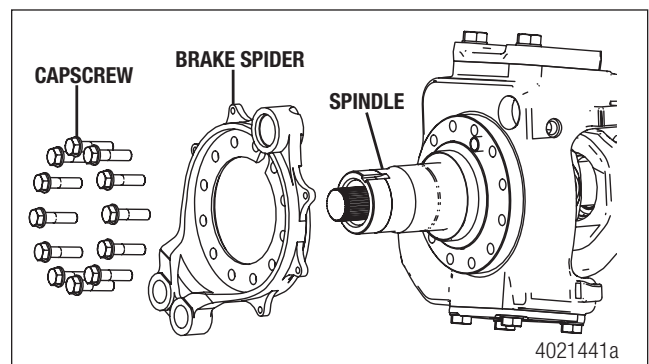
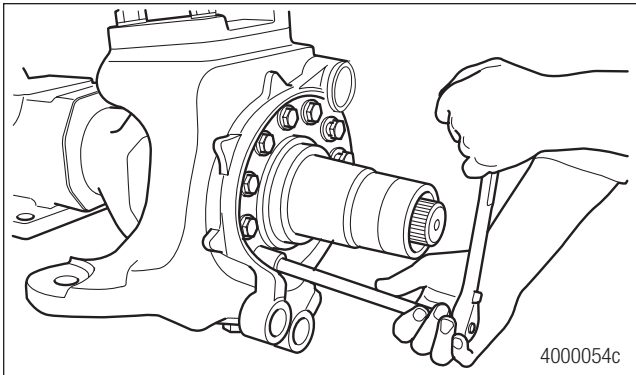

Figure 7.17
Figure 7.18
5. Install the spindle against the knuckle with the keyway slot for the wheel bearing adjusting nut system toward the TOP for ABS spindles. Figure 7.17.
6. Install the brake spider onto the spindle. Fasten all parts to the knuckle with 12 capscrews and washers. Tighten to specification. Refer to Section 12 Specifications on page 77. Figure 7.17 and Figure 7.18.